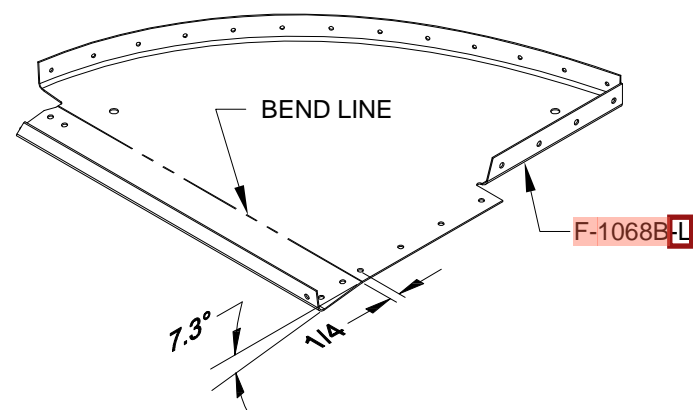

FIGURE 2: BEND SUB PANEL SIDE
Dimple the nutplate attach holes and the rivet holes in the forward flange of the fwd fuselage rib. See Figure 2. Dimple the nutplates that will be attached to the fwd fuselage rib.
Rivet nutplates to the fwd fuselage rib as shown in Figure 2.
Step 2: Using the edge of a table or other straight edge, bend the lower portions of the F-1068B-L and F-1068B-R Sub Panel Sides as shown in Figure 2.